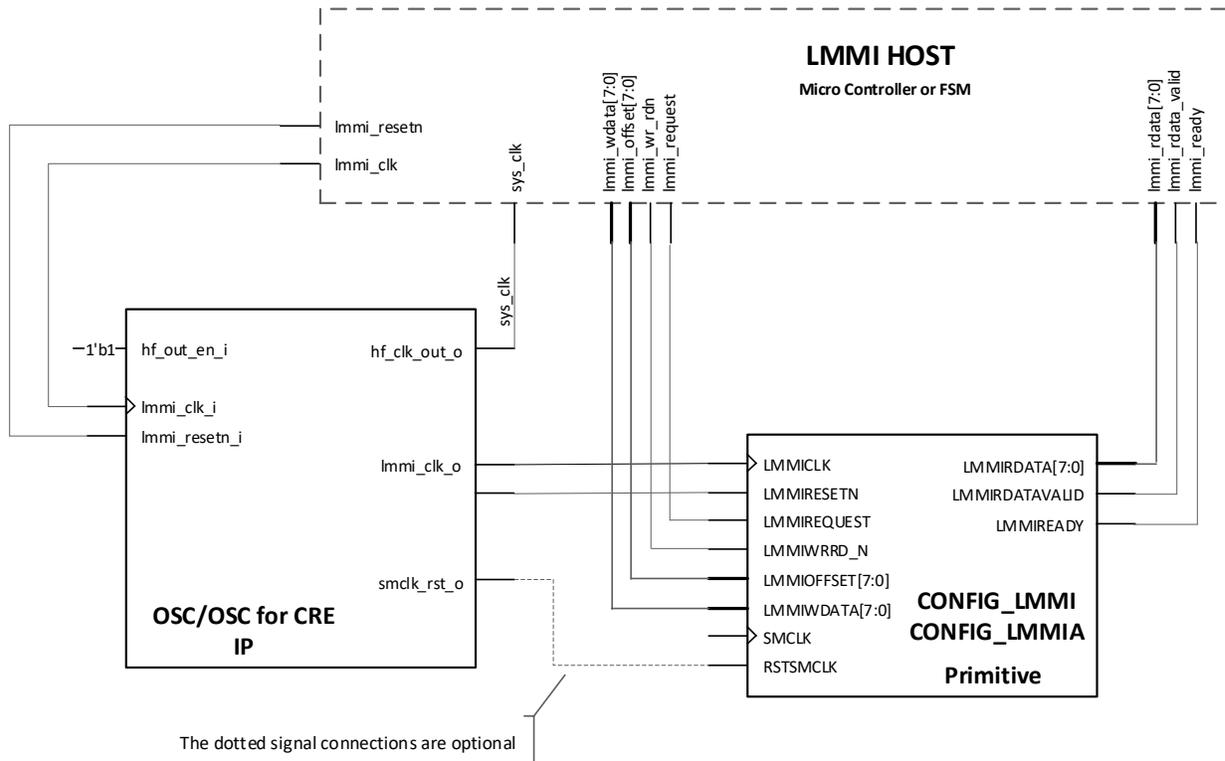

Figure D.2. CONFIG_LMMI(A) Primitive and OSC/OSC for CRE IP Connection
- There is no simulation model supported for CONFIG_LMMI(A) primitive.
D.2. CONFIG_LMMI(A) Primitive and OSC/OSC for CRE IP Connection and Instantiation
In the user design, the CONFIG_LMMI(A) primitive and OSC IP should be connected as shown in Figure D.2.